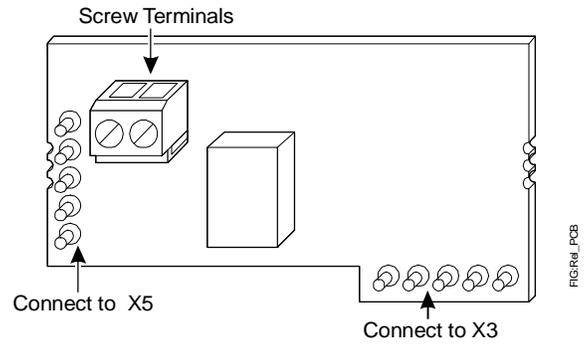

**Figure 5: Transmitter PCB**
- Connect the 24V supply between the positive (+) and negative (-) terminals as shown in Figure 5.
The transmitter is capable of generating either voltage or current output. To select, refer to Figure 5 and:
**Note:** The diagnostic Light Emitting Diodes (LEDs) shown in the lower right-hand corner of Figure 5 indicate operational status: